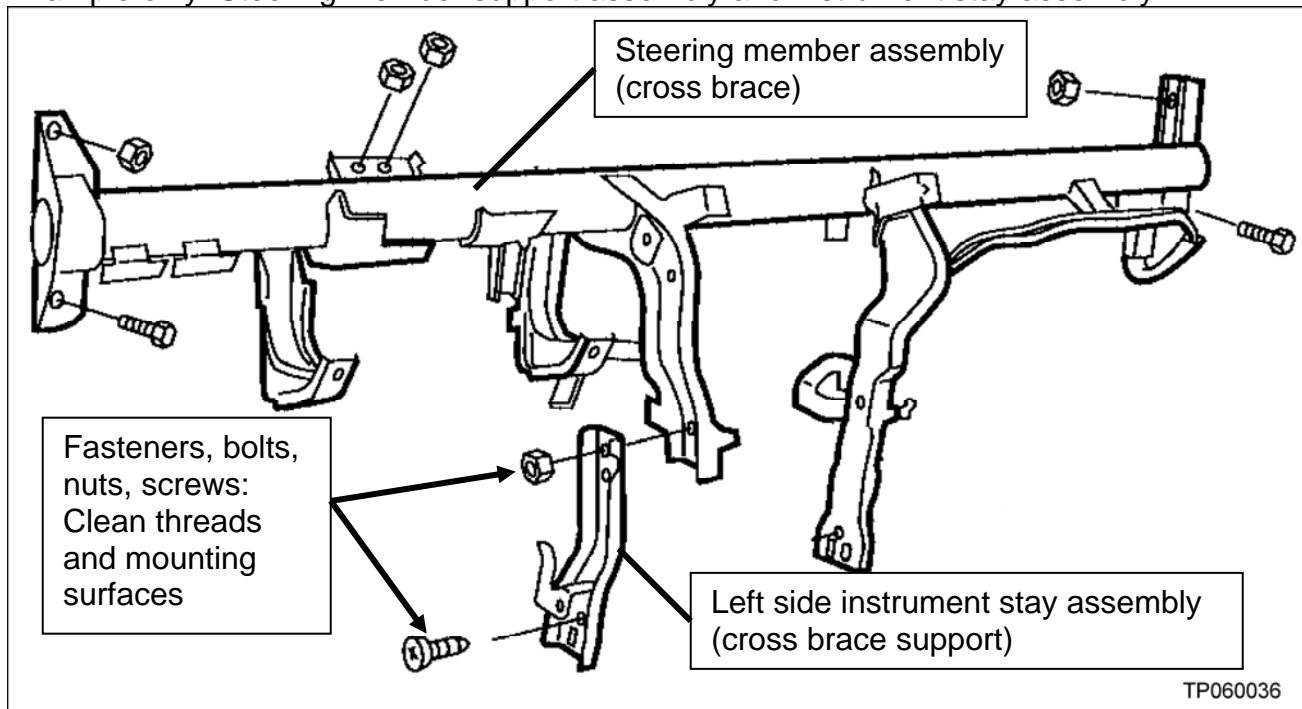

Figure 3
- a. Remove the fasteners (nuts, bolts, screws) that attach the left side instrument stay assembly (cross brace support) to the steering member assembly (see Figure 3).